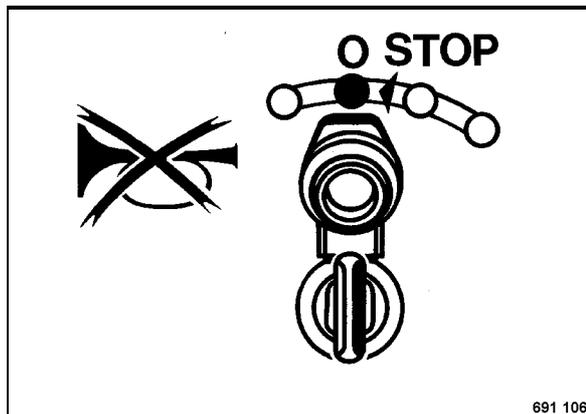

Fig. 27
- Turn the ignition key to position "0" (Fig. 27) and pull it out.